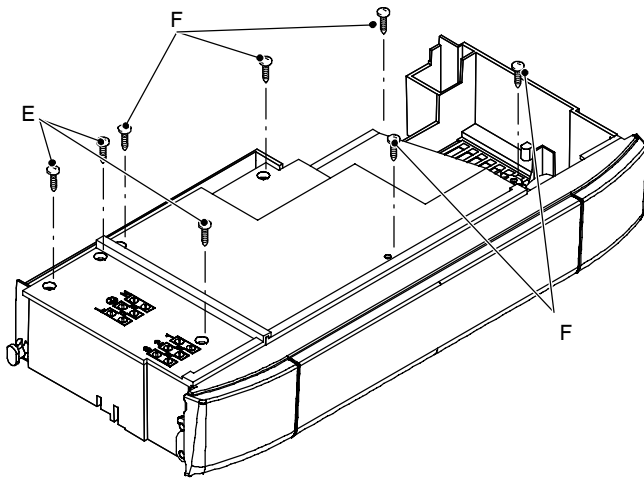

Fig. 5
- 5 Remove the screws *E* and remove the service panel (Fig. 5);
- 6 To gain access to the electronic regulation PCB remove the screws *F* and remove the control panel lid (Fig. 5);